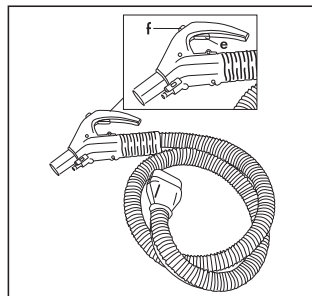

Fig. 14
- Switch on the machine at the main switch (4).
- Press the vacuum function button (f) on the hose handle (d) to activate or deactivate the vacuuming function. Fig. 14.
- Switch on the machine at the main switch (4) and press the boiler heating button (5). As soon as the green control lamp ('ready for operation') (8) illuminates, you can work with steam.
- Adjust the steam volume via the handwheel (6) on the appliance; rotate clockwise for more steam, anticlockwise for reduced steam.
- Push the steam on/off button (e) on the handle of the work hose (d), to activate or deactivate the steam function. Fig. 14.